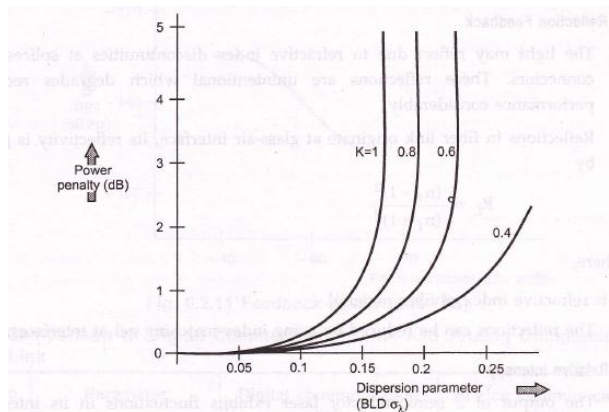

Fig. 6.2.9 MPN induced power penalty
A power penalty is paid to improve SNR for achieving desired BER. Fig. 6.2.9 shows power penalty at BER of  $10^{-9}$  as a function of normalized dispersion parameter (BLD  $\sigma_\lambda$ ) for different values of mode partition coefficient (K). (See Fig. 6.2.9 on next page.)